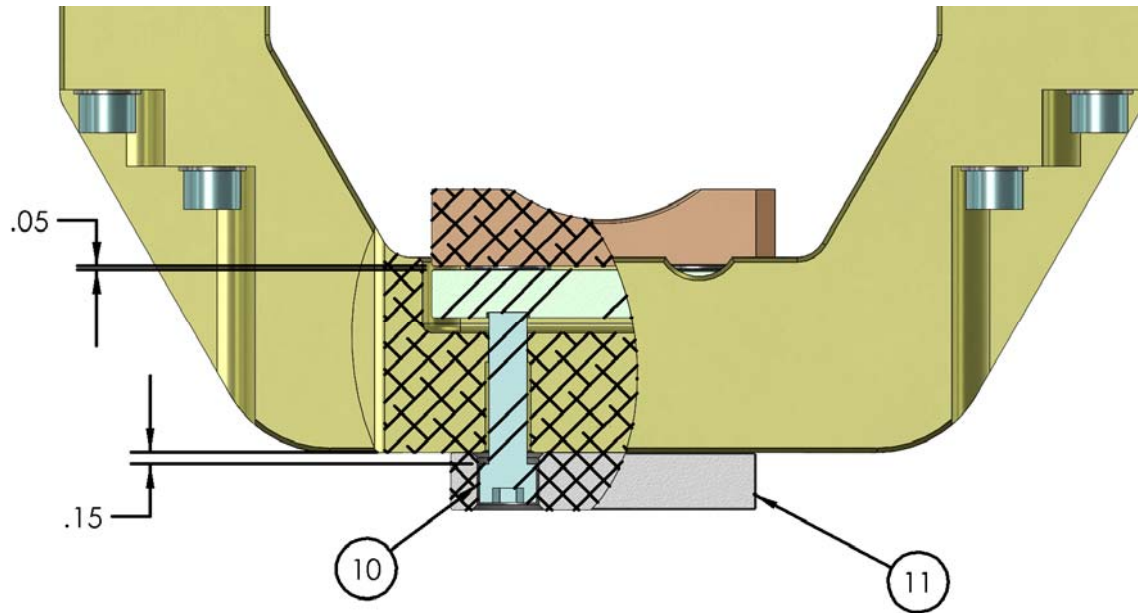

Figure 13
6.8 Apply the preload using Item (10) 1/2-13 x 2" lg screws Figure 13 in increments of 1/4 turns alternating diagonally This will center the clamp to the Support Tube. Once you have tightened each screw 3/4 turn then .050 gap between the clamp washer D080377 and the clamp preload (D080376) is gone Figure 13. Now Torque the 4 preload screws Item (10) to 50 ft*lbs.